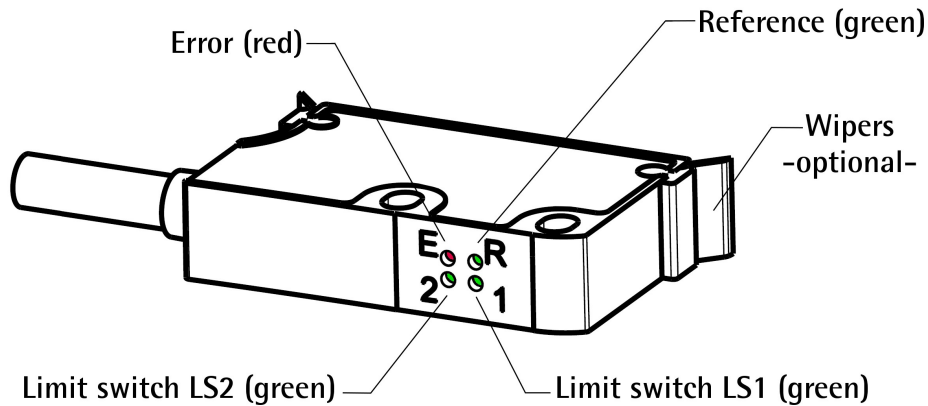

Figure 10 - Diagnostic LEDs and optional cleaning wipers
4.9 Diagnostic LEDs (Figure 10)
The following list shows some typical faults and errors that may occur during installation and operation of the magnetic measurement system. Refer also to the "4.9 Diagnostic LEDs (Figure 10)" section on page 26.